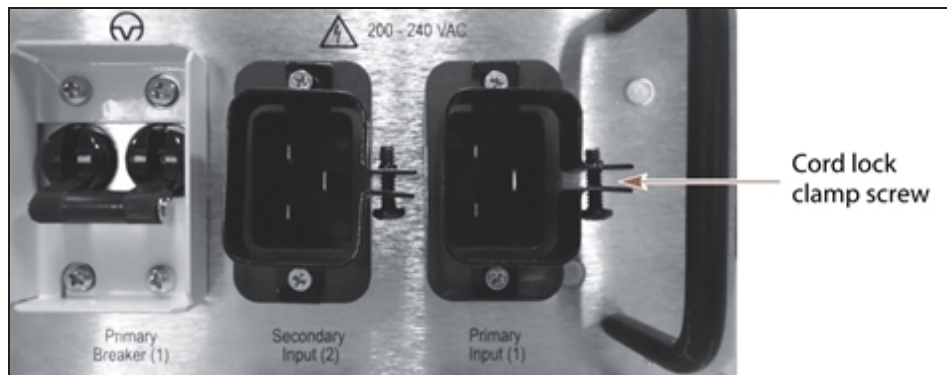

Figure 91 Install the cord locks on the power cords.
5. Place a cord lock over the connector on the end of the power cord that connects to the library. Orient the cord lock as shown in Figure 91.